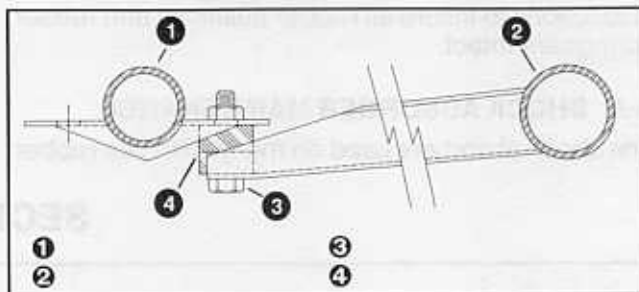

Figure 5 – Center Torque Arm Attachment to Cross-Shaft Assembly
- h. **If replacing cross-shaft assembly**, disconnect center torque arms mounted between the axles and the cross-shaft assembly. Refer to Figure 5.
- l. Reattach the center torque arms mounted between the axles and the cross-shaft assembly. Refer to Figure 5.
- c. Disconnect center torque arms mounted between the axles and the cross-shaft assembly. Refer to Figure 5.
- h. Reattach the center torque arms mounted between the axles and the cross-shaft assembly. Refer to Figure 5.